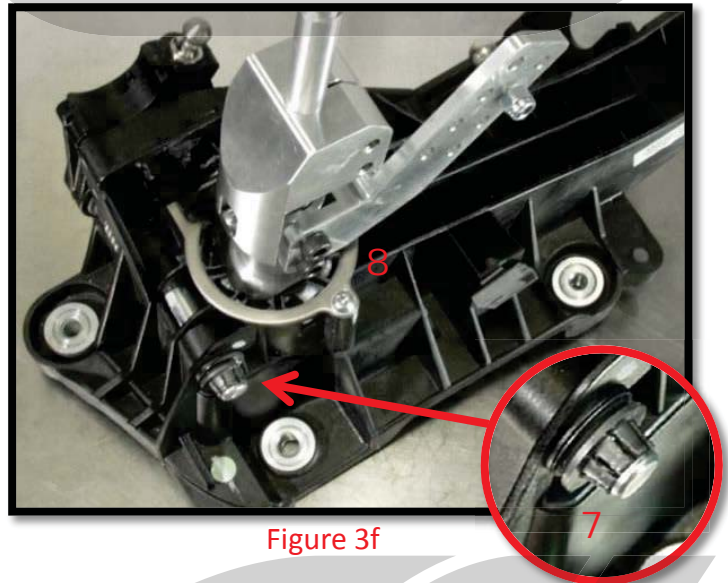

Figure 3f
- g) **Lubricate with white lithium grease and press the Plastic Retainer Clip (7) back onto the Side Action Actuator shaft (Figure 3f).**